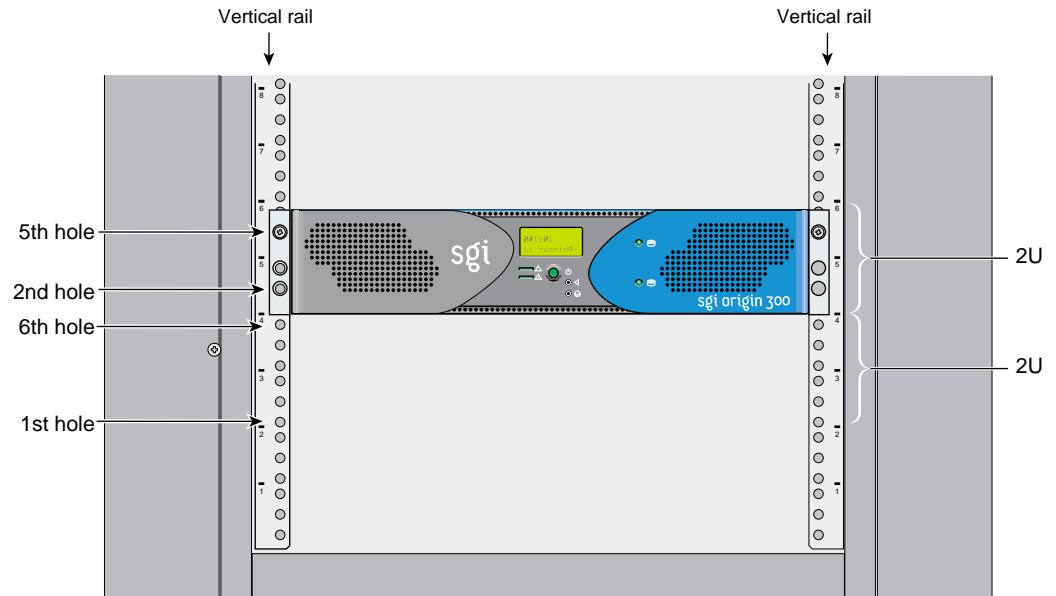

Figure 2-5 Mounting-hole Pattern of Rack Vertical Rails
The server requires 2 units (U) of space within the rack. (1 unit is equivalent to 1.75 inches [44.5 cm]). To determine where you should install the slide rails in the rack, you must count mounting holes. Each U contains three mounting holes; therefore, in the 2U of space that the server occupies, there are six mounting holes. The bottom hole of the 2U space is hole 1. The top mounting hole in the 2U space is 6. Refer to Figure 2-5.
Note: A server in the rack is identified by the lowest U number that it occupies. For example, in Figure 2-5 the server resides in U5 (the fifth unit within the rack).